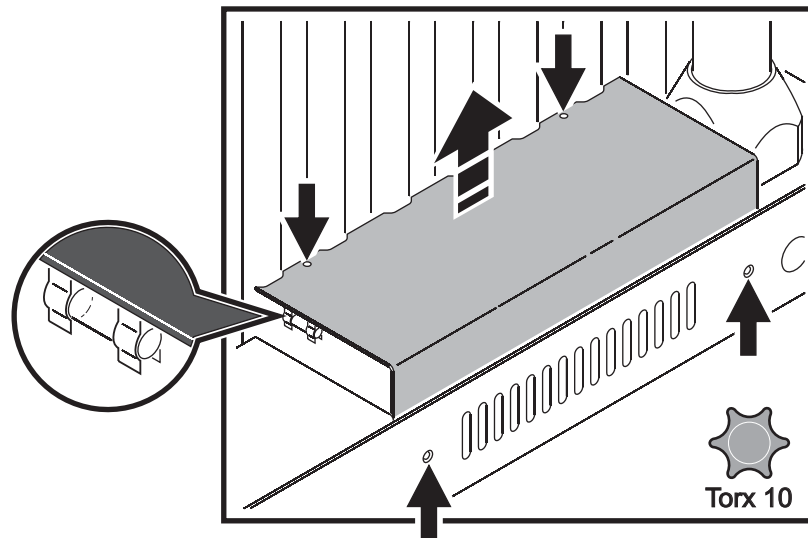

Figure 18: Fuse replacement
2. See Figure 18. Remove four screws (arrowed) from a base cover and lift the cover up slightly for access to the fuse. Avoid pulling hard on covers, as this will strain the wiring.